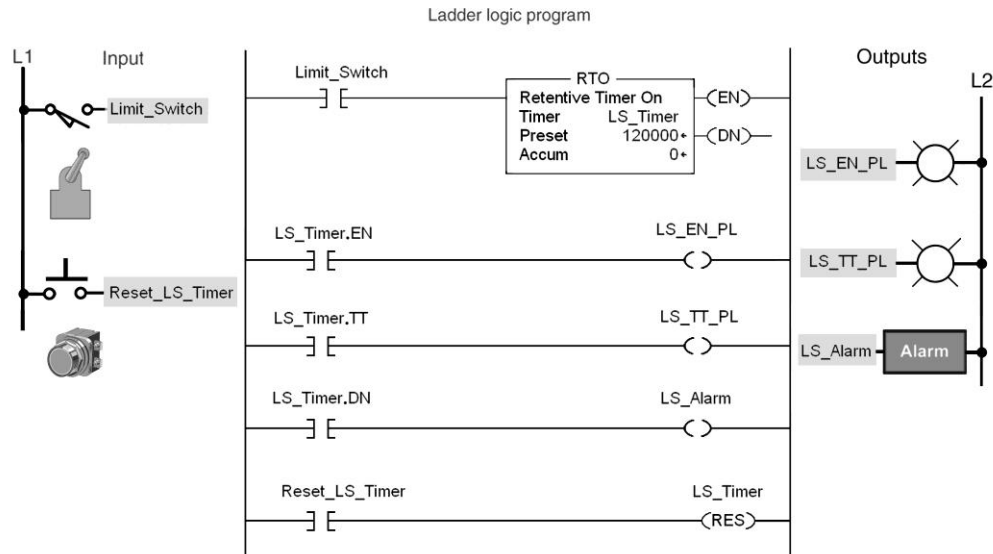

Figure 15-31 Limit switch RTO timer program for assignment 7.
7) The limit switch RTO timer program of Figure 15-31 is described in the text.